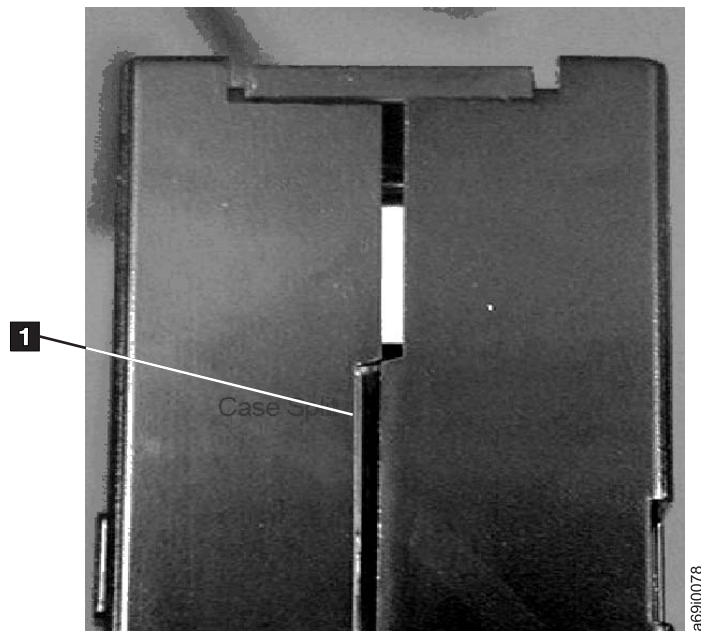
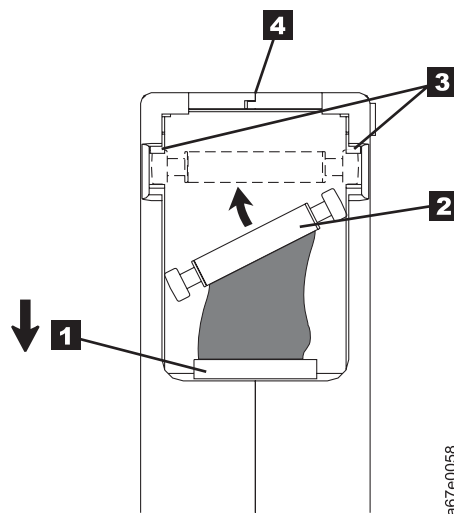

Figure 4-7. Checking for gaps in the seams of a cartridge
Figure 4-9. Placing the dislodged leader pin into the correct position. The cartridge door is open to show the leader pin.
case (see **1** in Figure 4-7 and **4** in Figure 4-9 on page 4-11). If there are gaps in the seam (see Figure 4-7), the leader pin may be dislodged. Go to “Repositioning or Reattaching a Leader Pin” on page 4-10.
Example: Split Cartridge Case (see Figure 4-7)
1. Slide open the cartridge door (**1** in Figure 4-9) and locate the leader pin (**2** (you may need to shake the cartridge gently to roll the pin toward the door).